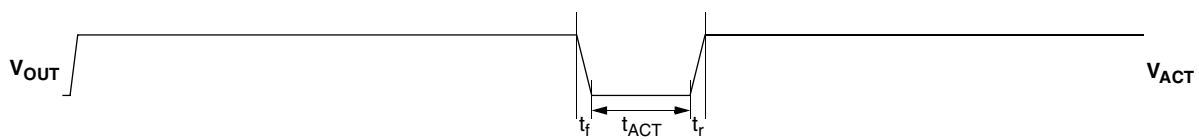

Fig. 5-4: Activate pulse
- Activate a sensor (see Fig. 5-4 on page 34)